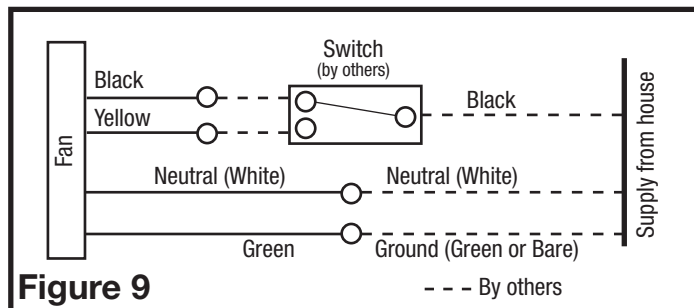

Figure 9
- 3b. From where you have chosen to access the fan's junction box, connect the white wire from the house to the white wire from the fan. Connect the wire from the automatic position on the wall switch to the black wire from the fan, connect the wire from the manual On position on the switch to the yellow wire from the fan. Connect the ground wire from the house to the green wire from the fan housing (**Figure 9**). Use approved methods for all connections.